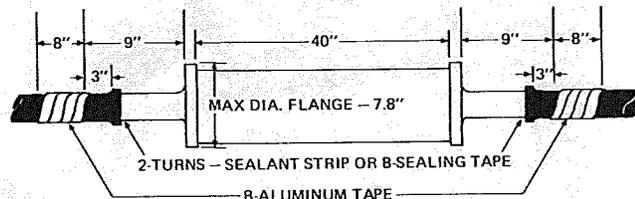

Fig. 27
(1) Clean all surfaces of the sleeve and cable which will be in contact with the Thermofit WRS, especially the metal surfaces. Wash with water and clean exposed metal with B cleaning fluid, especially where stearine has been used.
(2) Pressure test the sleeve and repair leaks if necessary. Clean pressure testing solution from the sleeve and cable.
(3) Preheat area with torch. This will help dry the sleeve and cable. The area in contact with the WRS must be dry.
(4) Place at least 8 inches of half-lapped B Aluminum as shown in Fig. 27.
(5) Abrade the polyethylene sheath between the aluminum tape and the lead sheath with a sharp carding brush. Clean off residue.
(6) Dress down aluminum tape so that no sharp edges protrude. Also check the wiped joint and tape armor for sharp protrusions.
(7) Place two wraps of the sealant strip or 1½-inch B sealing tape around cable as shown in Fig. 27.
*Note:* The CSE-M kits will fit a maintenance splice where a standard C sleeve liner is used under the lead sleeve (44-inches long). Where it is necessary to place a longer sleeve, use two CSE-M kits. Overlap the two kits by 8 inches: cut 8 inches of the metal channel off of the first kit after the channel has cooled to the touch. Cut the second kit to length. (Make sure the edge is square.) Maintain the measurement on the cable as shown in Fig. 27.